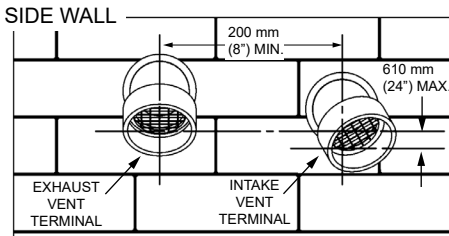

Figure 29. Sidewall Vent Clearances*
Important: When terminating the vent on a side wall, the following specifications pertaining to terminal location must be followed. See **Figure 29**.
4. To avoid exhaust recirculation, the air intake terminal may be rotated away from the exhaust vent terminal. See **Figure 29**.